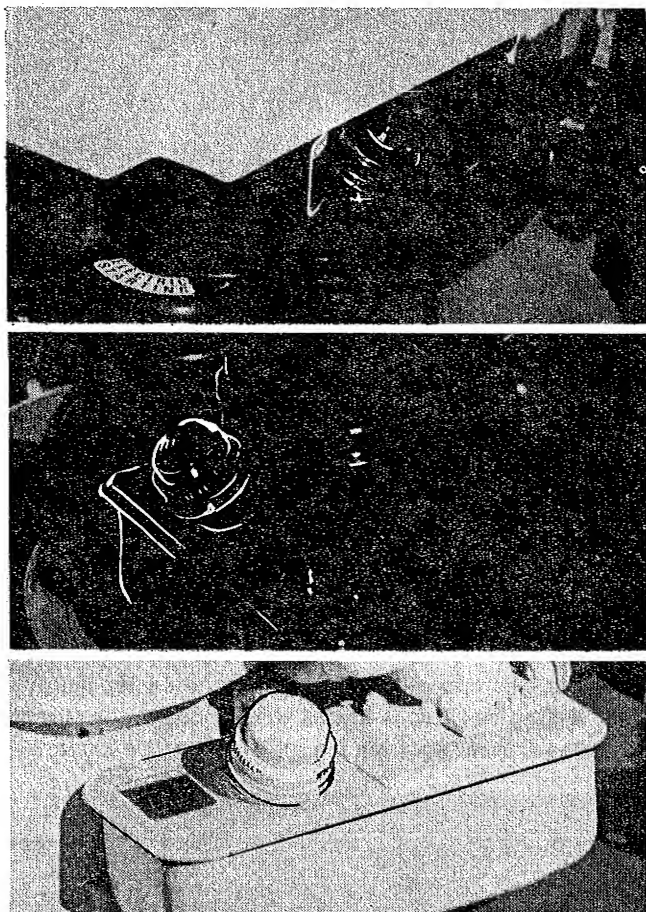

FIGURE 5
**2. Fuel Supply:** Check the fuel supply. Fill tank completely with clean, fresh, leaded or non-leaded "Regular" grade automotive gasoline. (DO NOT MIX OIL WITH GASOLINE). Store gasoline in small quantities as prolonged storage produces gum. (Figure 5).